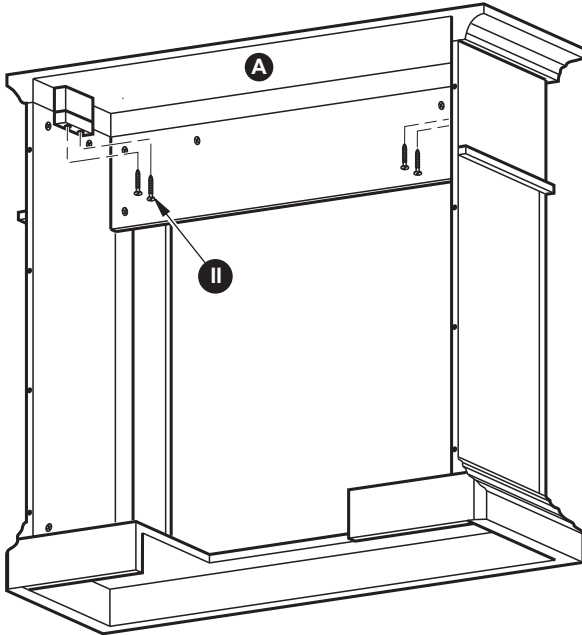

Figure 33
5. Fasten the wooden support brackets attached to the top of the mantel assembly to the Top (A) with 4) ST4 Screw 1 $\frac{9}{16}$ " (II) as shown in Figure 33.